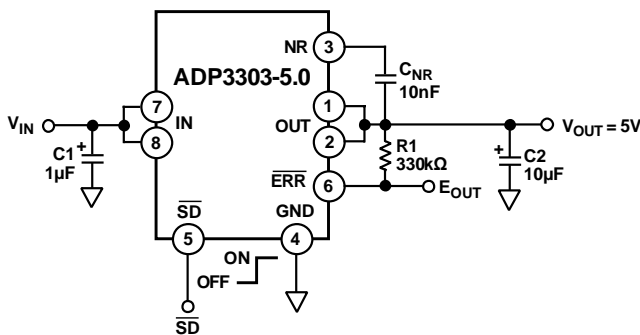

Figure 23. Noise Reduction Circuit
A noise reduction capacitor ( $C_{\text{NR}}$ ) can be used to further reduce the noise by 6 dB to 10 dB (see Figure 23). Low leakage capacitors in the 10 nF to 100 nF range provide the best performance. Since the noise reduction pin (NR) is internally connected to a high impedance node, any connection to this node must be carefully done to avoid noise pickup from external sources. The pad connected to this pin must be as small as possible. Long PCB traces are not recommended.